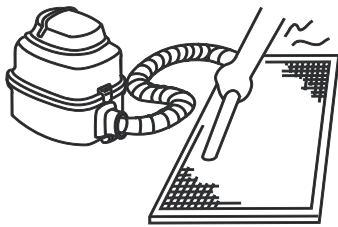

Figure 13.2
- a. The air intake side should face up when using a vacuum cleaner. (Refer to Figure 13.2)